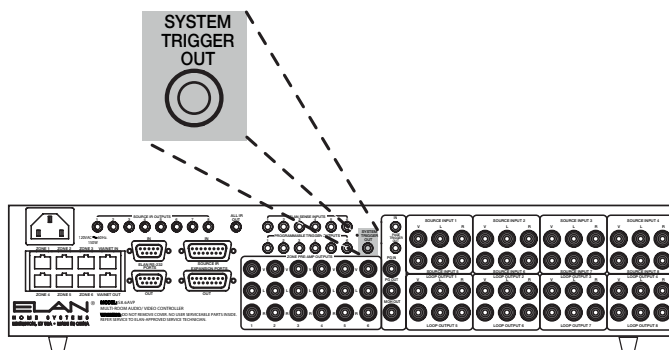

Figure 1-17. System Trigger Out
The PAGE TRIGGER IN and PAGE TRIGGER OUT connections allow system-wide paging when utilized with ELAN's COM2 Communications Controller (9). PAGE TRIGGER IN connects from the COM2 Communications Controller. PAGE TRIGGER OUT connects to additional S8.6 Multi-Room Integrated Controllers in a multi-unit configuration (see **Figure 1-17**).
The SYSTEM TRIGGER OUT (10) connects to devices (external amplifiers, for example) that need to be activated when any zone of the system is activated (see **Figure 1-17**). The System Trigger Out is programmable with VIA!TOOLS Setup Software.